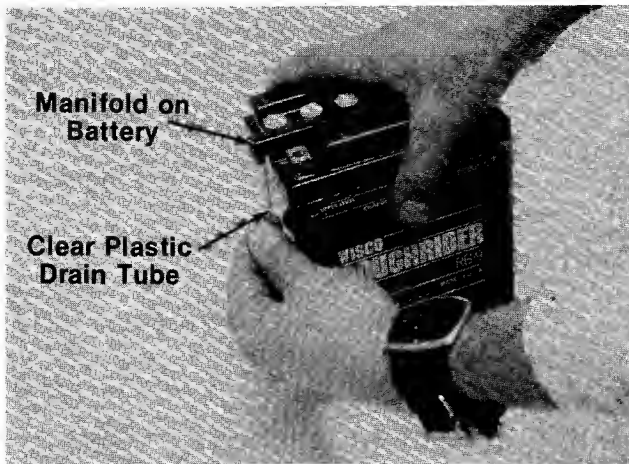

FIGURE 5.
3. Place one end of clear plastic drain tube on manifold of battery. See figure 5.